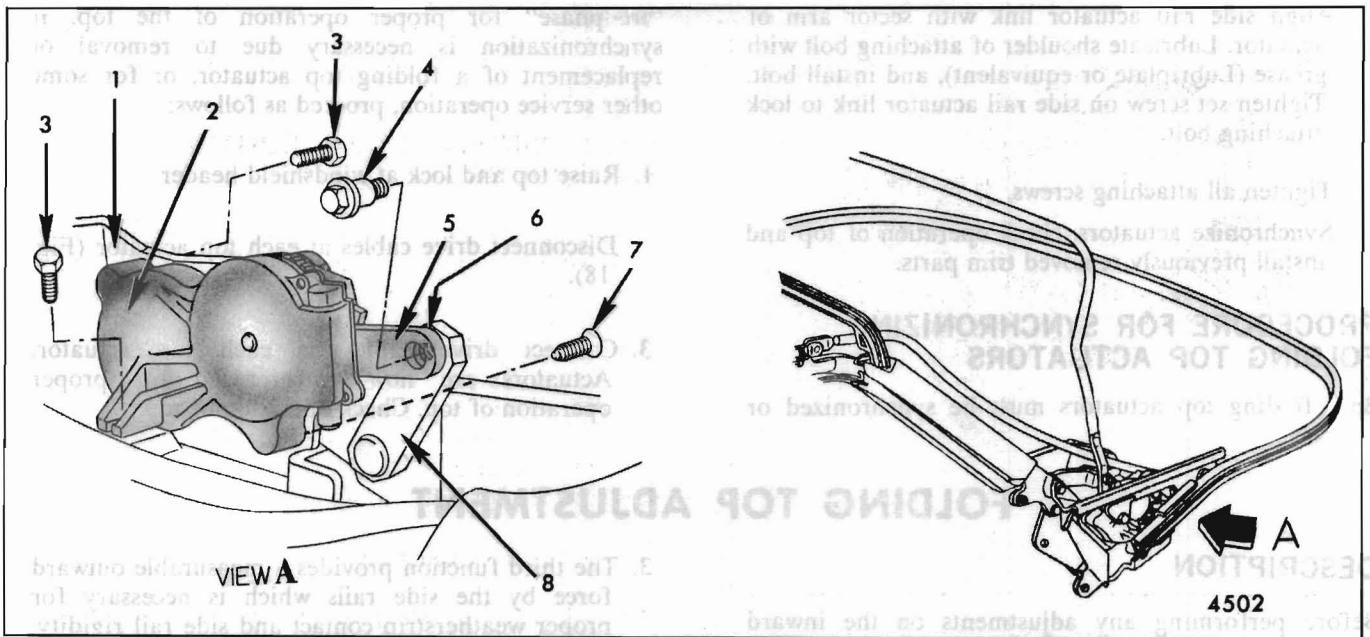

Fig. 20-Folding Top Actuator Attachment (View in Direction of Arrow "A")
A folding top actuator assembly is secured to each main hinge by attaching screws (Fig. 20) and to the side rail system by a shoulder bolt. The shoulder bolt threads into the actuator link and is locked in place with a set screw. Actuator assemblies are operated by electrically powered drive cables.
- Remove actuator attaching screws (Fig. 20). If top is lowered, side rails require slight raising manually, plus required support, for access to rear flat-head attaching screw.
- Align outer leg of actuator with main hinge attaching hole, vertically position outer attaching screw (Fig. 20) and finger start screw.